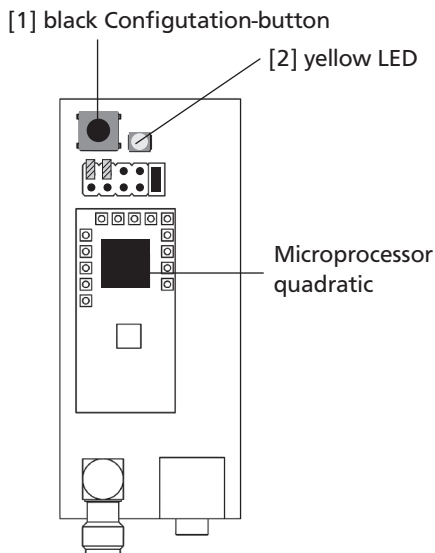

Fig. 6: PCB version 2 - Microprocessor quadratic, fixation all around.
– PCB with quadratic Microprocessor (Fig. 6):